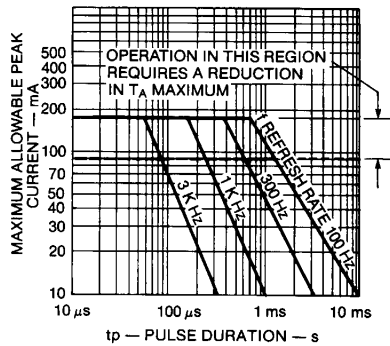

Fig. 1. Maximum Tolerable Peak Current per LED Chip vs. Pulse Duration for HLMP-23X0/-26XX/-25X0/-28XX
- See Figure 1/2 to establish pulse operating conditions.